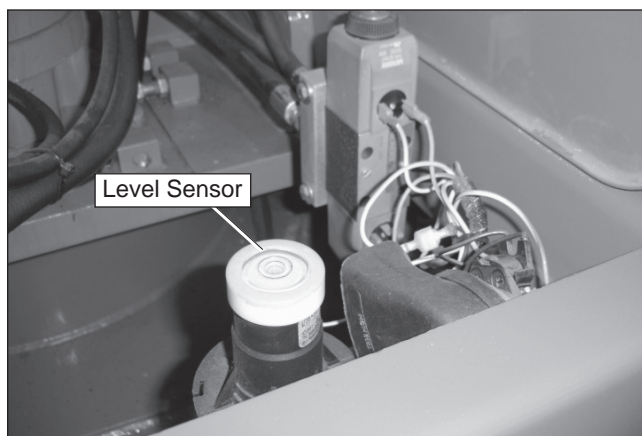

Figure 7.14 – Level Sensor
4. Open the door on the left side of the machine to access the level sensor (refer to Figure 7.14).